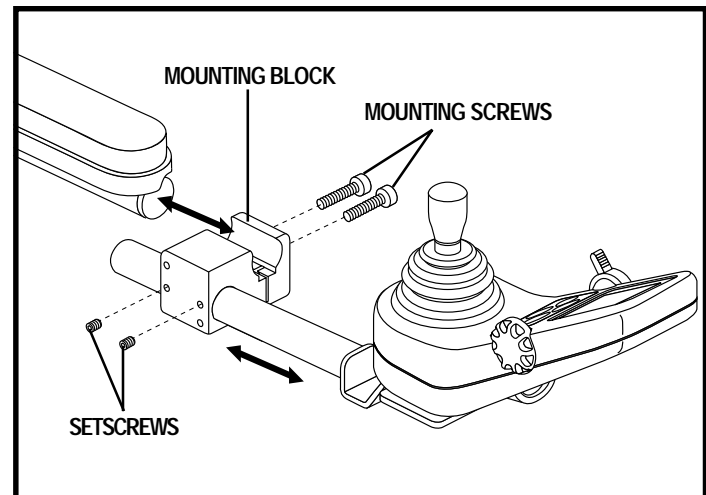

Figure 19. Adjusting Controller Position (Mounting Block)
NOTE: If your power chair is equipped with a Specialty Seat, Synergy Seat, or TRU-Balance Power Positioning System, loosen the setscrews in the mounting block, slide the controller in or out to the desired position, then tighten the setscrews. See figure 19.
5. Loosen the mounting screws in the controller mounting block. See figure 19.